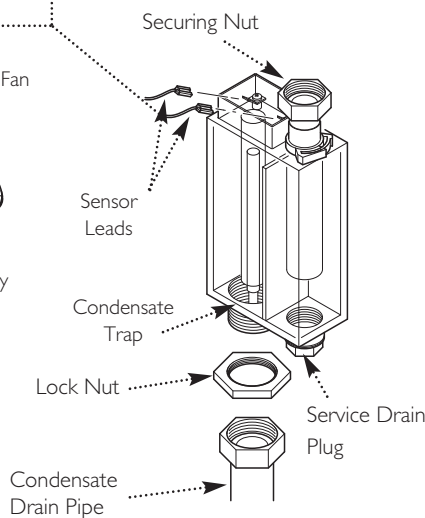

Fig. 43
f) Undo the condensate trap securing nut, lock nut and the condensate drain pipe. Remove the condensate trap and disconnect the sensor leads (Fig. 43).